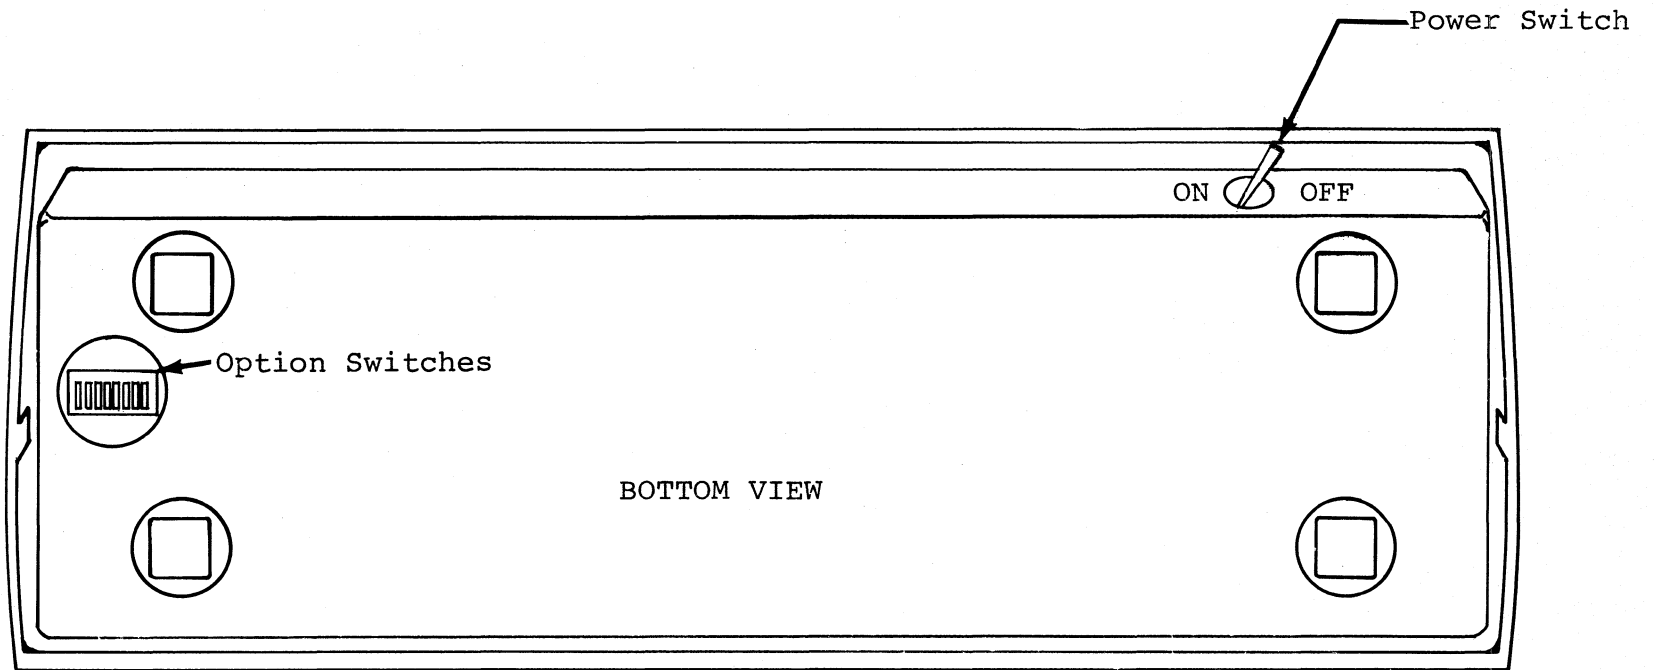

Figure 2-4. Location of Power and Option Switches
- . Set all option switches in KTM-3 to OPEN position. Refer to Figures 2-4 and 2-5 for the location of the option switches.
- . Refer to Figure 2-4 for the location of the KTM-3 ON/OFF switch. Turn on the KTM-3 and the video monitor. Allow approximately 30 seconds for the monitor to warm.